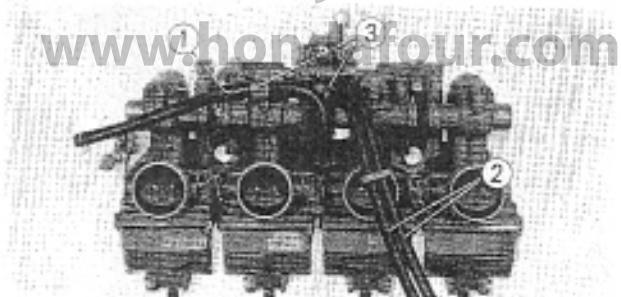

Fig. 3-92 ① Fuel tube
- Install and route each carburetor tube as shown in Fig. 3-92.
- Move the throttle lever until it contacts the adjusting screw, and check the throttle valve-to-throttle bore clearance (L). If out of specification (0~1.0 mm/0~0.04 in.), adjust the clearance by means of the adjusting screw.